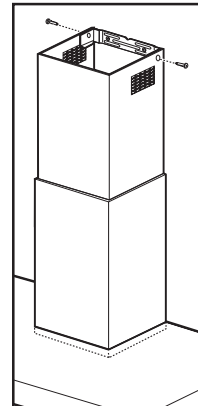

Fig. 13b
- Raise the upper flue and fix it above with 2 screws to flues support bracket. **Fig.13b**